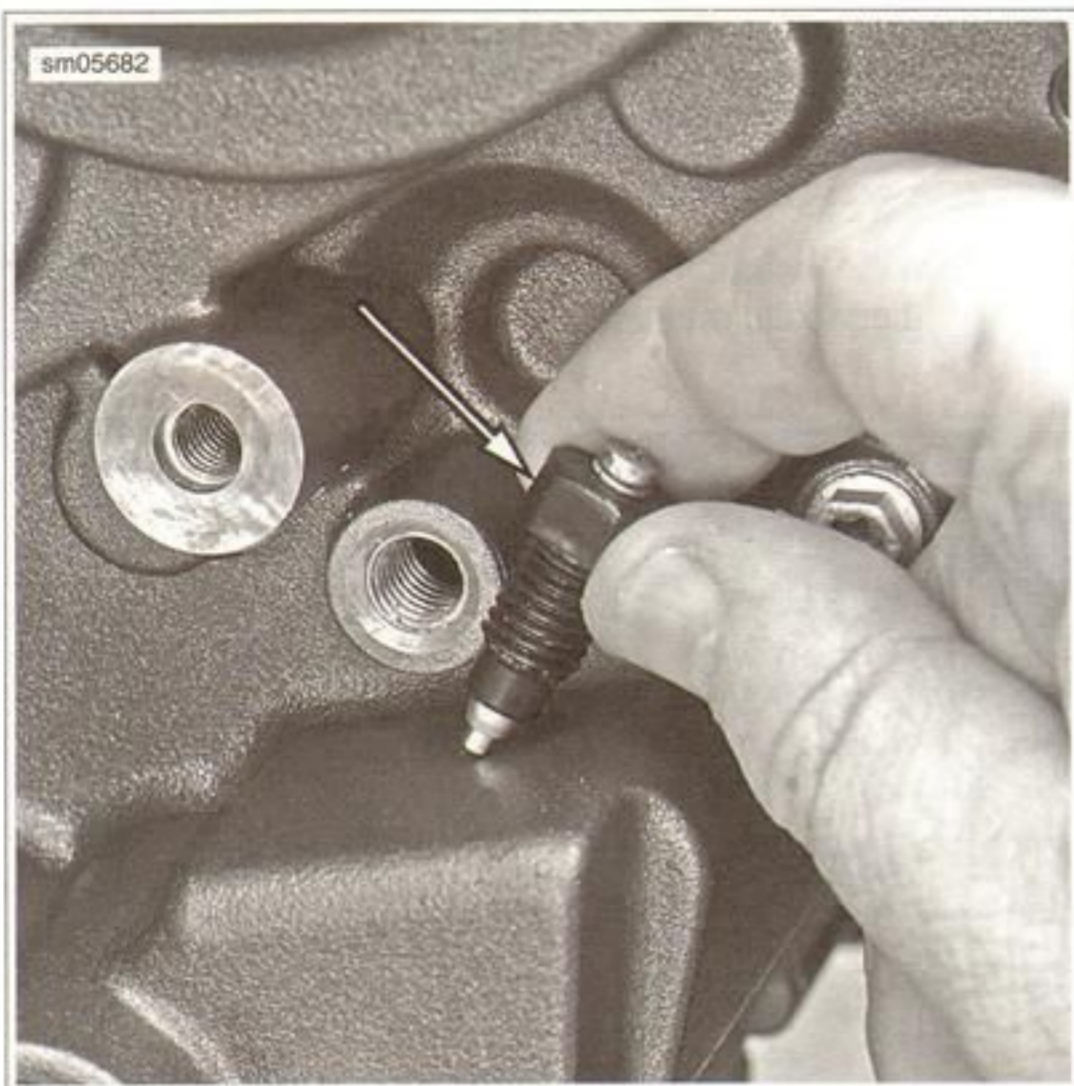

Figure 7-85. Neutral Indicator Switch [131]
1. See Figure 7-85. Apply a light coating of LOCTITE 5331 Sealant to the threads of the switch.